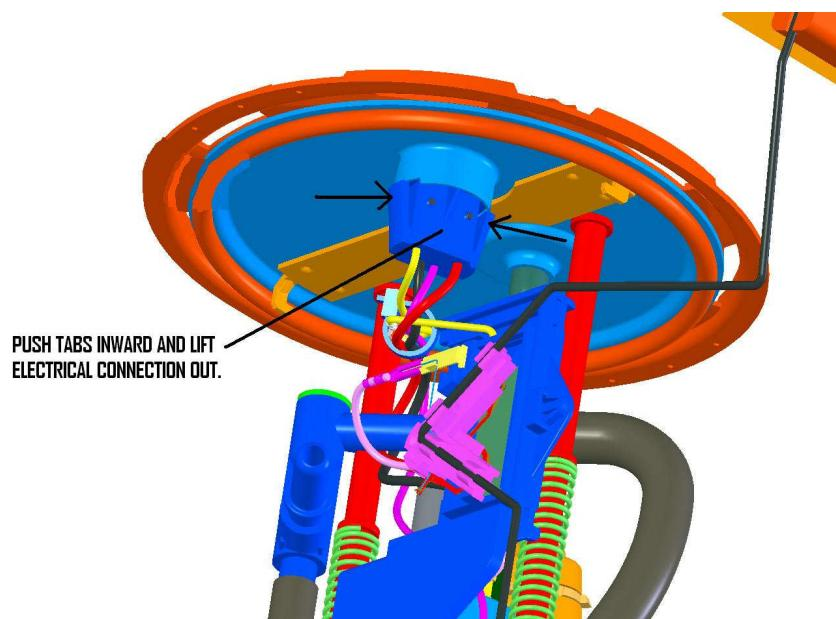

FIGURE 1-3
10. Only two parts will be used off the hanger assembly, the electrical connection and fuel level sensor. Remove the electrical connection as pictured in **FIGURE 1-3**.